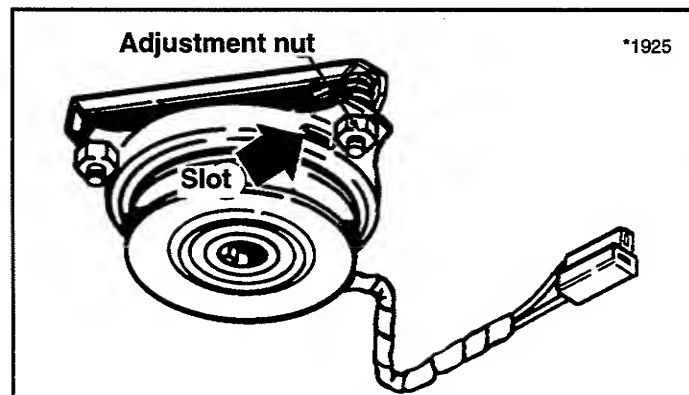

Figure 30. PTO Clutch Adjustment
2. Use a 0.010 - 0.012 feeler gauge to check the PTO at three places. See figure 30. Insert the gauge between the drive spring rivets. There should be a slight resistance as gauge is moved in and out of slot.